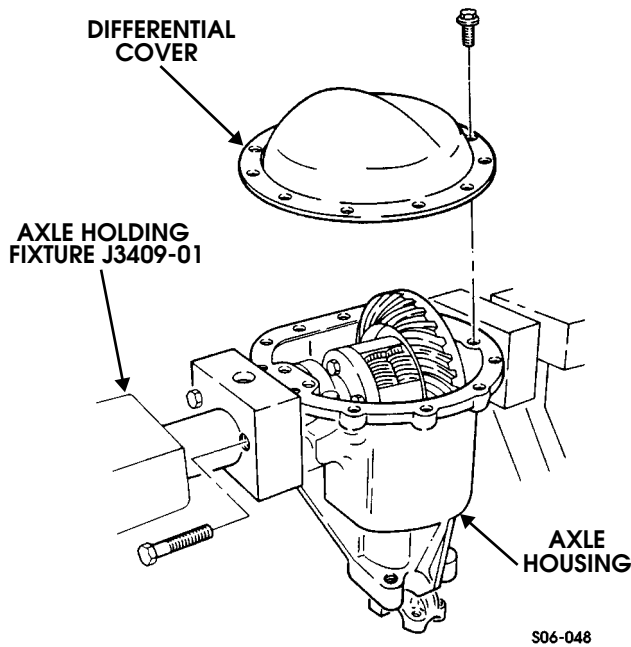

Figure 9-60: Axle Mounted In Holding Fixture
6. Secure two axle holding fixture adapters to housing with four bolts. Place housing in holding stand (Figure 9-60).
7. Position housing so cover faces up. Remove twelve bolts and cover from housing (Figure 9-60).